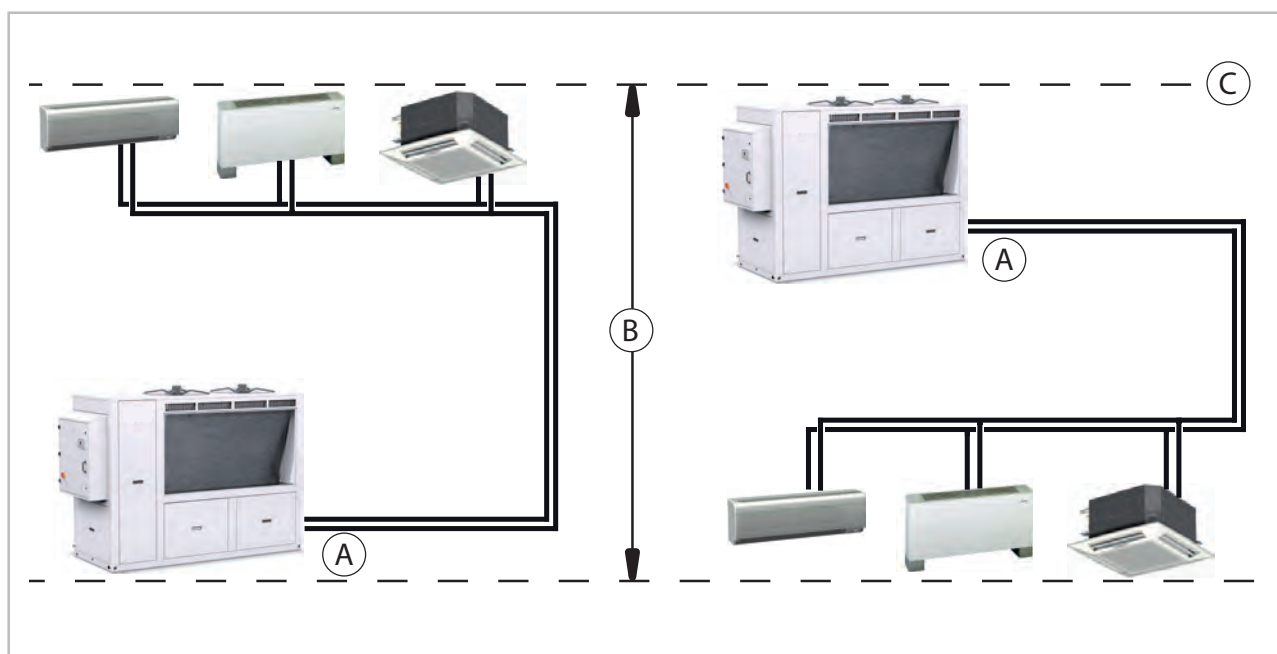

Fig. 18: Unit preliminary pressure
- If the unit is positioned at the **highest** point in the system, the unit preliminary pressure (=non-circulating pressure) must be set to **at least 70 kPa (0.7 bar)**. Please note that the system pressure at the lowest point is **increased** by the geodetic system altitude! (See Fig. 18)